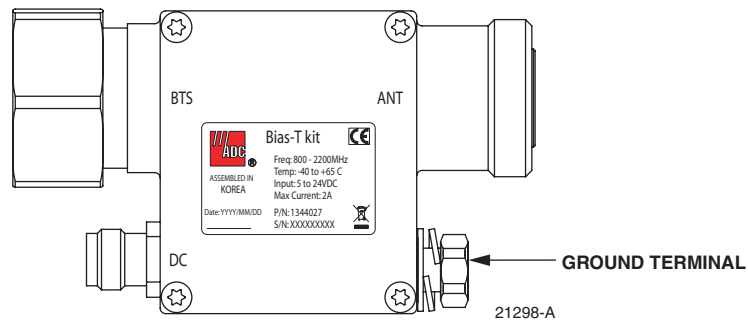

Figure 9. Bias-T Ground Cable Connection
5. Connect the ground cable to the Bias-T ground terminal (see Figure 9).